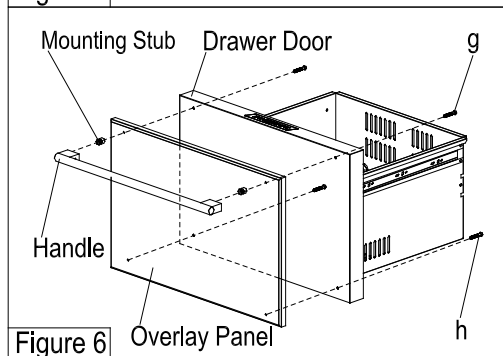

Figure 6
- Replace the screws from Step 6 with #10-32 UNF x 2.5 screws (g). (see **Figure 6**)
- Drill 2 #10x2 Phillips self-tapping screws (h) through the existing holes in the door groove at the bottom to secure the overlay panel. (see **Figure 6**)
- **Drill 4 #10x2 Phillips self-tapping screws (h) through the 4 existing holes in the door groove to secure the overlay panel.** (see **Figure 6**)